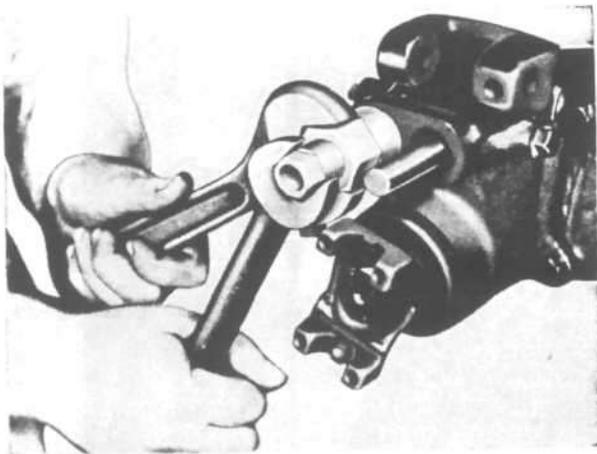

FIG. 212—SHIFT ROD OIL SEAL PULLER
- i. Remove the transfer case shift rod oil seal with Tool No. W-176 as shown in Fig. 212.